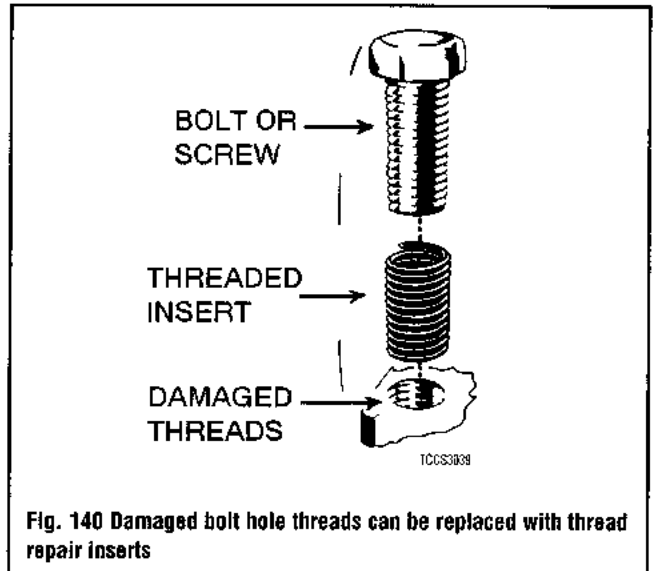

Fig. 140 Damaged bolt hole threads can be replaced with thread repair inserts
▶ See Figures 140, 141, 142, 143 and 144